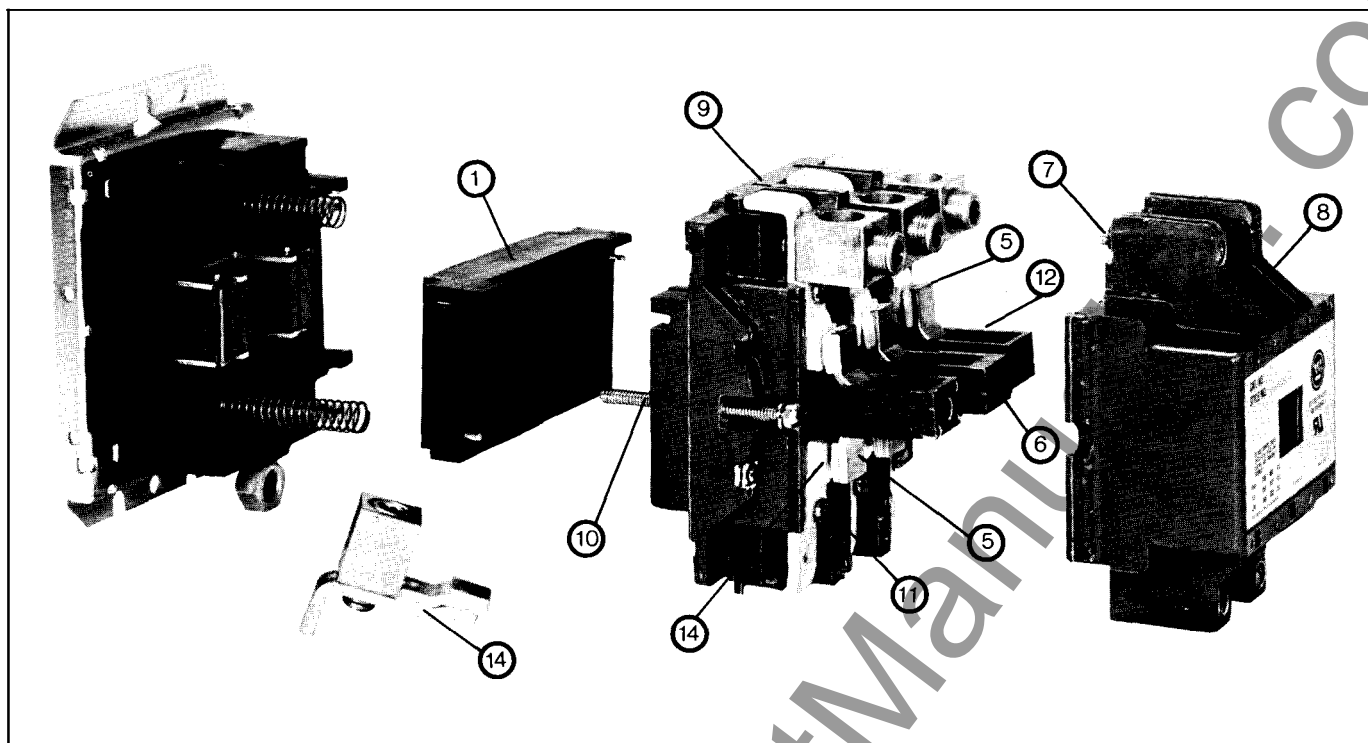

Fig. 3 Definite Purpose Magnetic Contactor (Exploded View)
Refer to Figure 3. Loosen the two arc box assembly screws (7) located immediately above and below the nameplate and remove the arc box (8). Contacts (5) are visible. Retighten the screws per Table I.
Refer to Figure 3. Loosen the assembly screws (10) located to the immediate top and bottom of the arc box. Pull the loosened upper base structure (9) forward. Pull the coil (1) from the upper base, plug in a new coil, replace the upper base structure and check the auxiliary contacts for secureness when repositioning the upper base. Tighten the assembly screws referring to Table I.
Tie a loop of strong string or light weight cord around each movable contact sufficiently large to extend on both sides of the crossbar (item 6 in Figure 3) and engage the hook on the spring scale